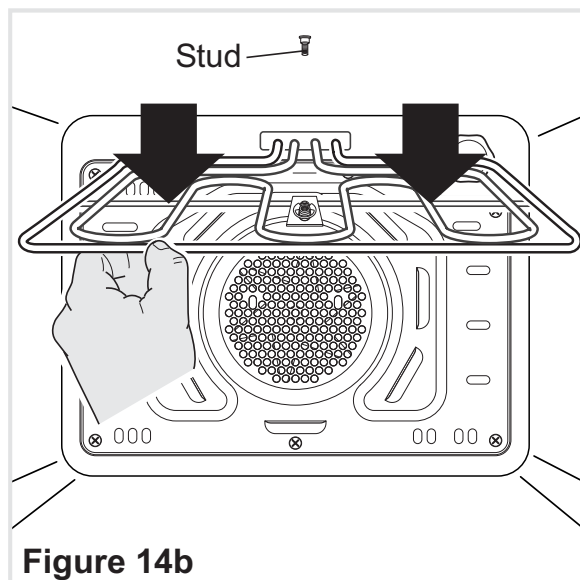

Figure 14b
- The grill is secured to the rear wall of the oven on a hinge system that allows it to be lowered to allow proper access when cleaning the oven ceiling (fig. 14b).